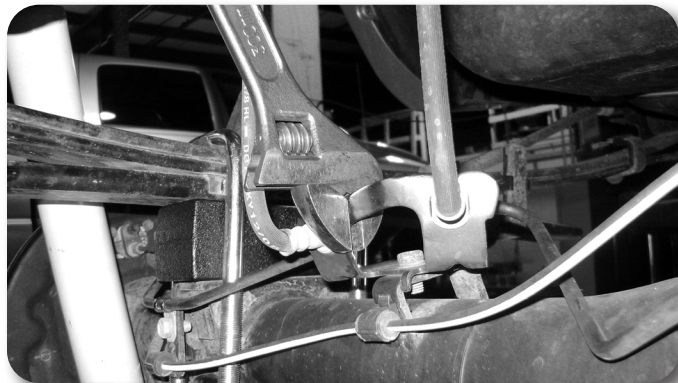

Figure 2
8. Locate the brake line bracket on the axle. Using an adjustable wrench carefully bend the bracket slightly forward to gain some slack in the rubber brake lines. Only 10-20 degrees is necessary. **Figure 2**